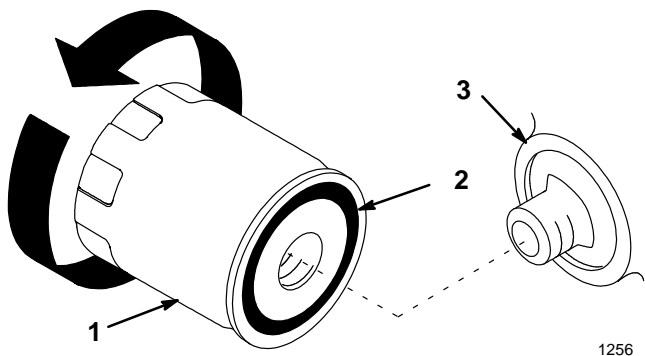

Figure 16
3. Apply a thin coat of new oil to the rubber gasket on the replacement filter (Fig. 16).
4. Install the replacement oil filter to the filter adapter. Turn the oil filter clockwise until the rubber gasket contacts the filter adapter, then tighten the filter an additional 1/2 turn (Fig. 16).